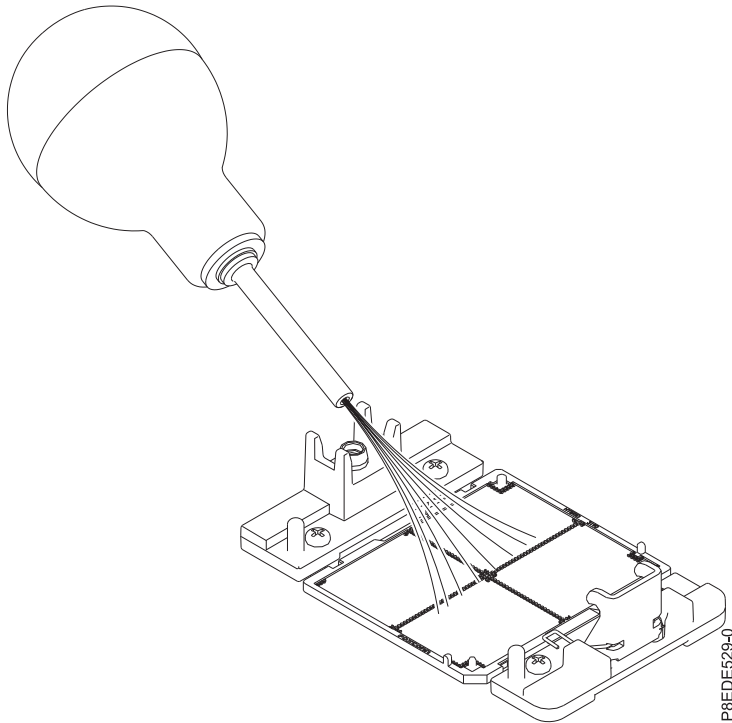

Figure 13. Removing dust and debris from the system processor socket
- a. If dust or debris is present on the system processor socket, use the supplied air pump (part number 45D2645) to clean the socket. Blow small bursts of air from the center toward the sides of the socket, as shown Figure 13 on page 14.